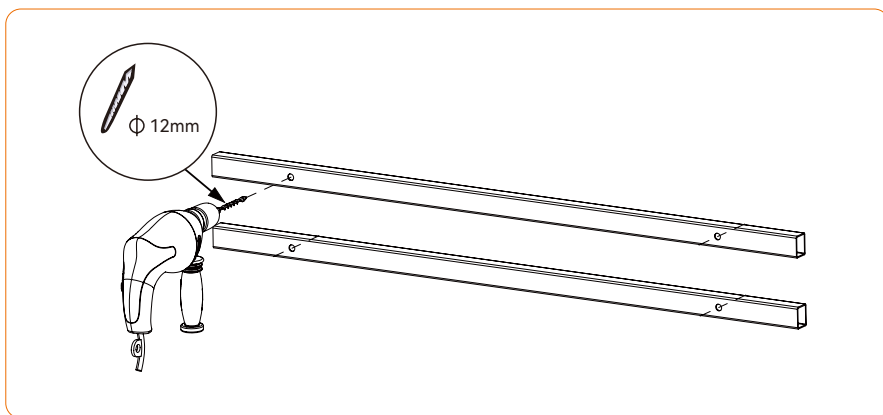

Figure 4-6 Drill the holes
③ Use an electrical driller with 12mm diameter bit to drill 4 holes on the installation bracket. See Figure 4-6 for details: